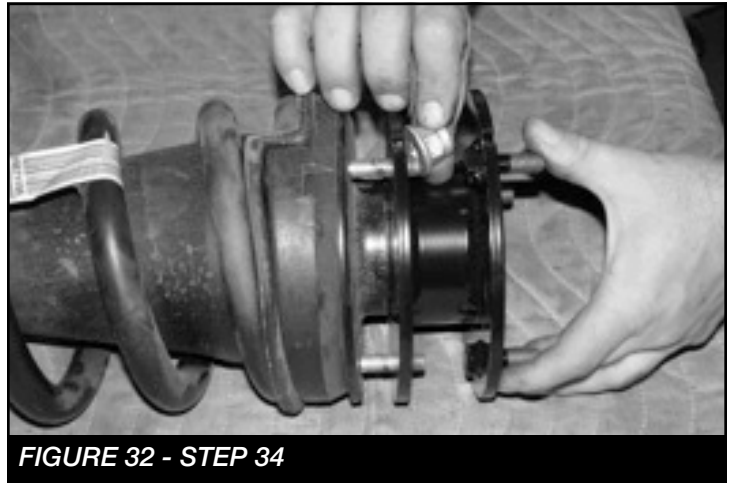

FIGURE 32 - STEP 34
34. Install the FT20560BK coil spacer using the factory nuts and torque to 37 ft-lbs. **SEE FIGURE 32**